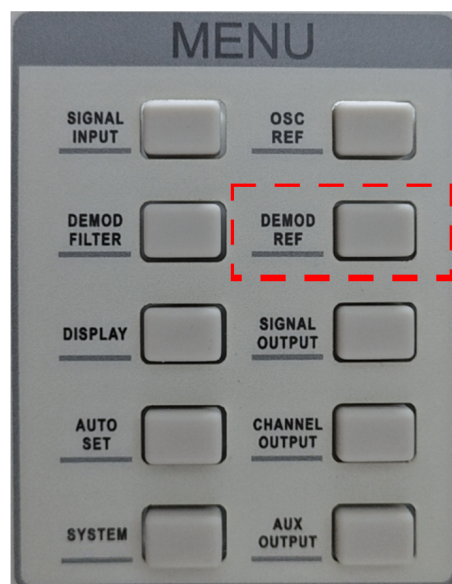

Figure 96. Location of the [DEMODO] Submenu
4. Press the [DEMOD REF] key on the front panel, shown in Figure 96, to enter the submenu.